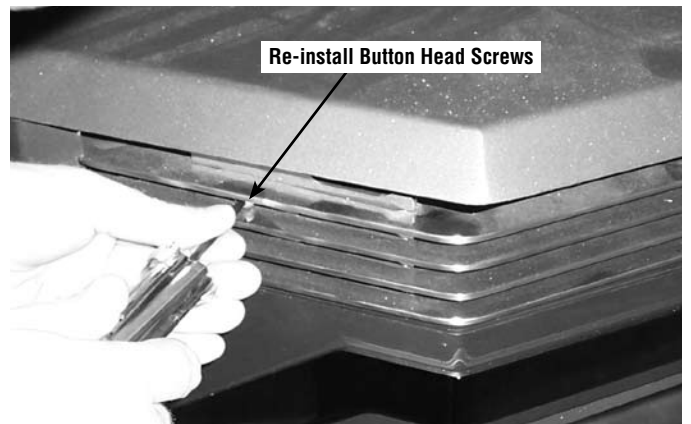

**Figure 30**
2. Pull the scraper rod out, rotate the grill vertically, (with the notch to the left) and slide the grill over the scraper rod (slide the rod between the third and fourth bar). See **Figure 30**.